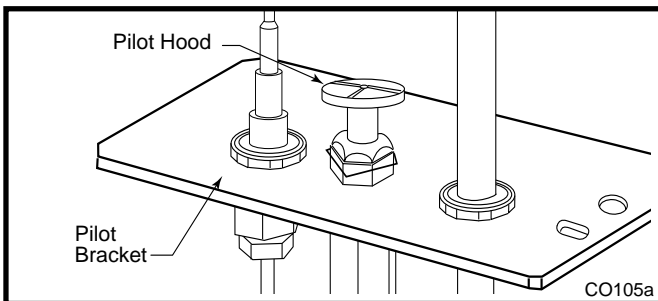

Fig. 61 Remove pilot hood.
- Remove pilot hood by lifting up. (Fig. 61) Do not remove snap ring to remove pilot hood. **NOTE:** It is not necessary to remove the pilot tube for conversion.